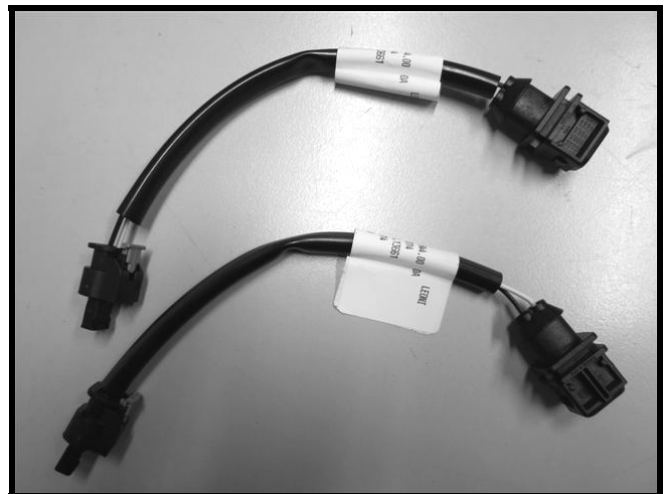

Fig. 11
- 5 In this case mount one TECHART adapter line each (fig. 11) between the respective cycle valve and the TECHART wiring harness.